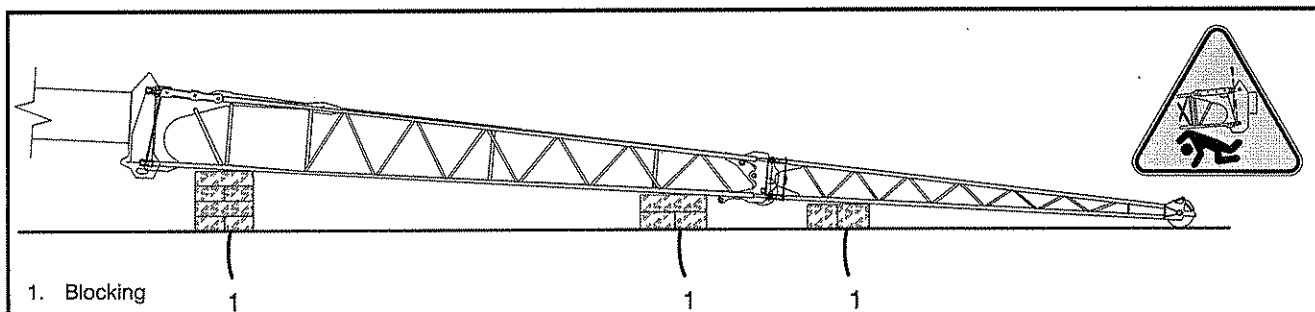

Figure 4-4
5. Pin the fly base and tip together on secure blocking. Refer to Figure 4-4. The fly base section weighs approximately 1,600 lb (726kg) and the fly tip section approximately 700 lb (318kg).
10. Securely block up the fly sections to support them. Refer to Figure 4-4. The fly base section weighs approximately 1,600 lb (726kg) and the fly tip section approximately 700 lb (318kg).